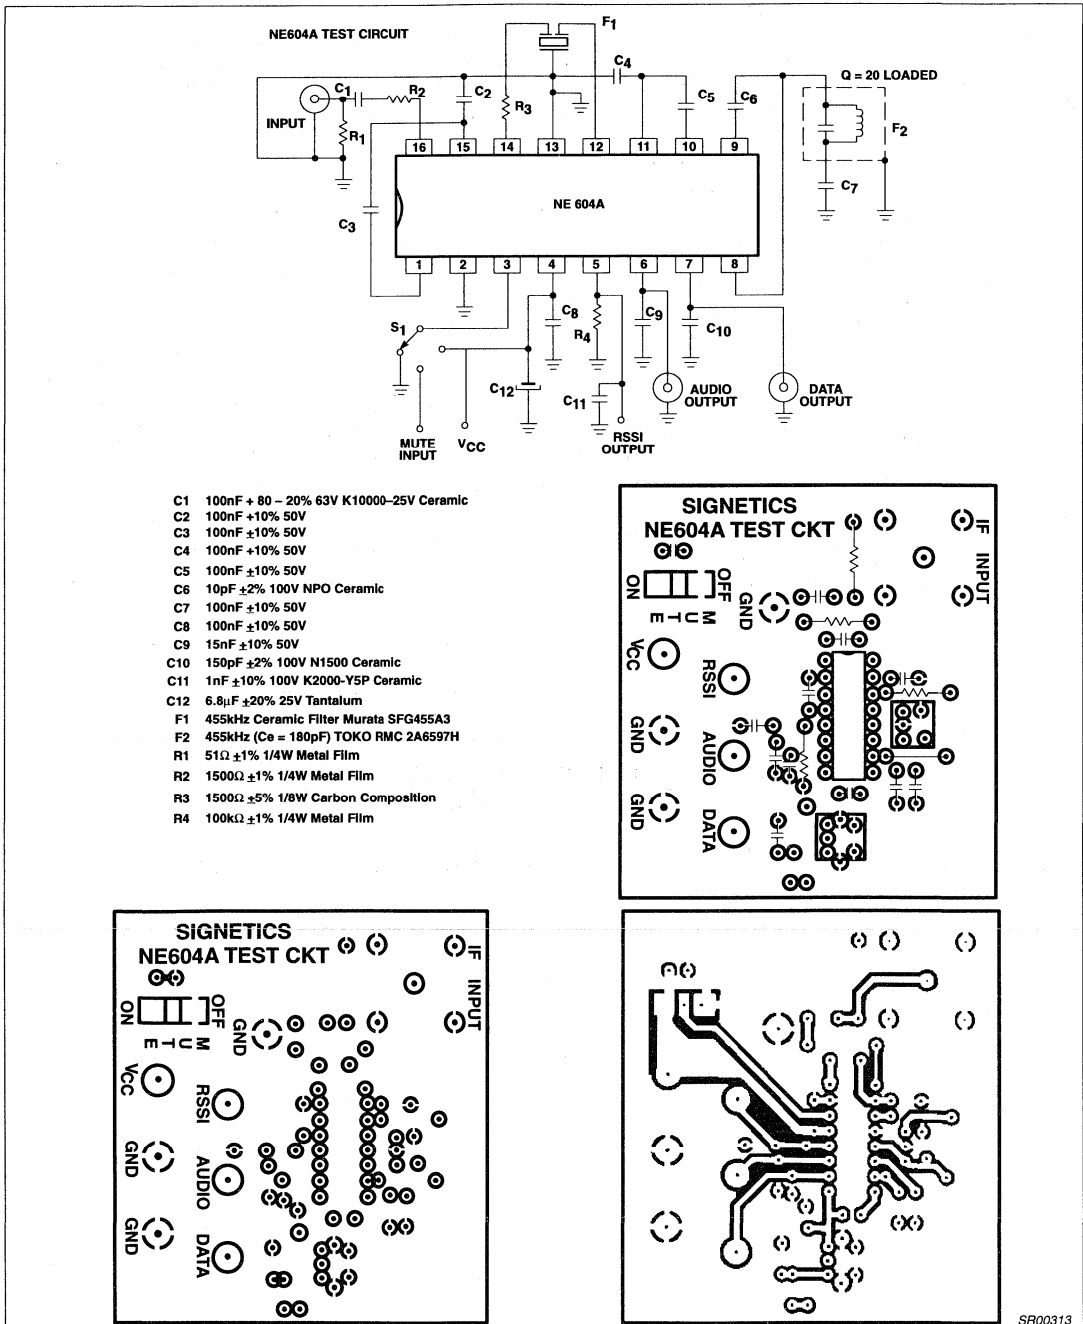
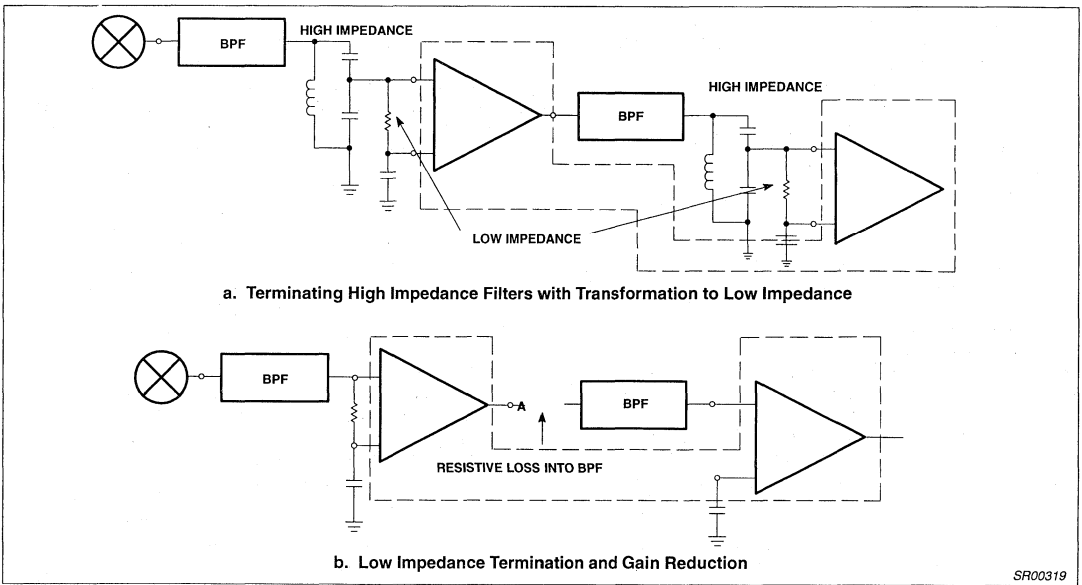

Figure 3. NE/SA604A Test Circuit
Figure 9. Practical Termination
Typical reading at  $T_A = 25^\circ\text{C}$ ;  $V_{CC} = \pm 6\text{V}$ , unless otherwise stated. IF frequency = 455kHz; IF level = -47dBm; FM modulation = 1kHz with  $\pm 8\text{kHz}$  peak deviation. Audio output with C-message weighted filter and de-emphasis capacitor. Test circuit Figure 3. The parameters listed below are tested using automatic test equipment to assure consistent electrical characteristics. The limits do not represent the ultimate performance limits of the device. Use of an optimized RF layout will improve many of the listed parameters.
The NE/SA604A is a very high gain, high frequency device. Correct operation is not possible if good RF layout and gain stage practices are not used. The NE/SA604A cannot be evaluated independent of circuit, components, and board layout. A physical layout which correlates to the electrical limits is shown in Figure 3. This configuration can be used as the basis for production layout.
There are three primary ways to deal with regeneration: (1) Minimize the feedback by gain stage isolation, (2) lower the stage input impedances, thus increasing the feedback attenuation factor, and (3) reduce the gain. Gain reduction can effectively be accomplished by adding attenuation between stages. This can also lower the input impedance if well planned. Examples of impedance/gain adjustment are shown in Figure 9. Reduced gain will result in reduced limiting sensitivity.
The high gain and bandwidth of the NE604A in combination with its very low currents permit circuit implementation with superior performance. However, stability must be maintained and, to do that, every possible feedback mechanism must be addressed. These mechanisms are: 1) Supply lines and ground, 2) stray layout inductances and capacitances, 3) radiated fields, and 4) phase shift. As the system IF increases, so must the attention to fields and strays. However, ground and supply loops cannot be overlooked, especially at lower frequencies. Even at 455kHz, using the test layout in Figure 3, instability will occur if the supply line is not decoupled with two high quality RF capacitors, a 0.1μF monolithic right at the  $V_{CC}$  pin, and a 6.8μF tantalum on the supply line. An electrolytic is not an adequate substitute. At 10.7MHz, a 1μF tantalum has proven acceptable with this layout. Every layout must be evaluated on its own merit, but don't underestimate the importance of good supply bypass.
At 455kHz, if the layout of Figure 3 or one substantially similar is used, it is possible to directly connect ceramic filters to the input and between limiter stages with no special consideration. At frequencies above 2MHz, some input impedance reduction is usually necessary. Figure 9 demonstrates a practical means.